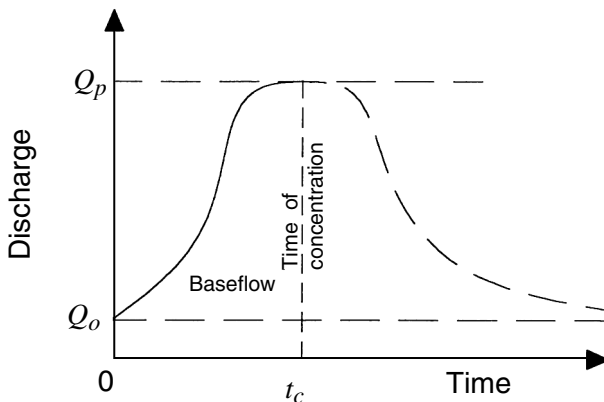

FIGURE I-1 Inflow hydrograph.
**Infiltration rate** The quantity of water that can enter the soil in a specified time interval. *See also* infiltration (3).
**Inflow** (1) Water other than wastewater that enters a sewer system (including sewer service connections) from sources such as roof leaders, cellar drains, yard drains, area drains, drains from springs and swampy areas, manhole covers, cross connections between storm sewers and sanitary sewers, catch basins, cooling towers, stormwaters, surface runoff, street washwaters, or drainage. Inflow does not include, and is distinguished from, infiltration (EPA-40CFR35.2005–21). (2) In stormwater modeling, net inflow is the difference between precipitation intensity and the rates of infiltration or evaporation. *See also* infiltration/inflow.
**Inflow hydrograph** The graphical representation of storm discharge at the beginning of a catchment or a stream reach against time. It is an S-shaped curve with the base discharge  $Q_0$  as initial ordinate and a maximum  $Q_p$  at the time of concentration  $t_c$ . *See* Figure I-1.